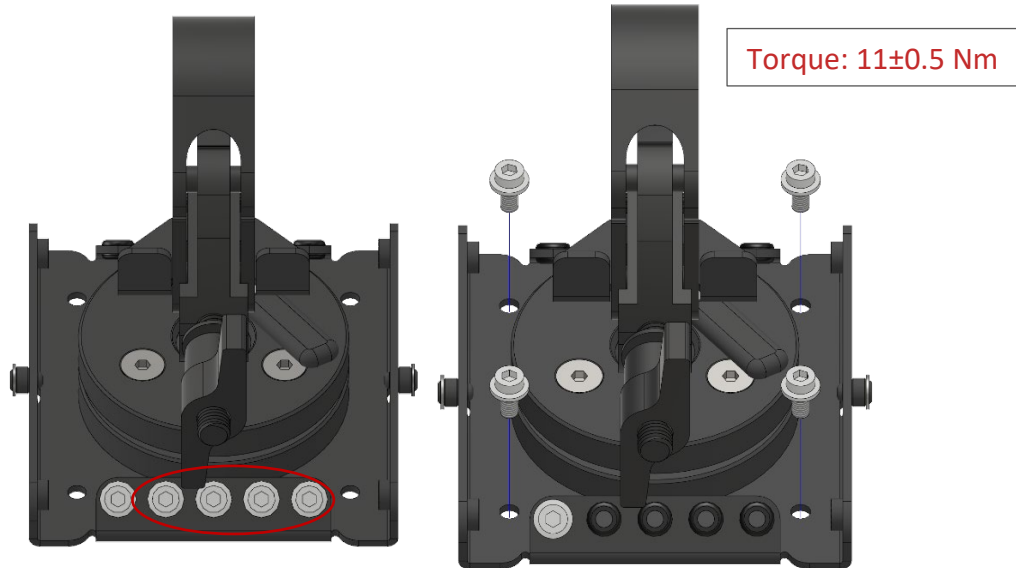

Figure 17 Securing the ECO Link
Step 1: Remove four of the five **M6x16 self-locking screws** from their parking position, see red circle in Figure 17.
Step 2: Fix the four **M6x16 self-locking screws** with a torque of 11 Nm to secure the ECO Link to the compatible ECO Series product (see Figure 17). Ensure that each screw passes through the plate and properly engages with the corresponding threaded hole. See Figure 16 in regards of compatible products to which you can fix the EVO Link.